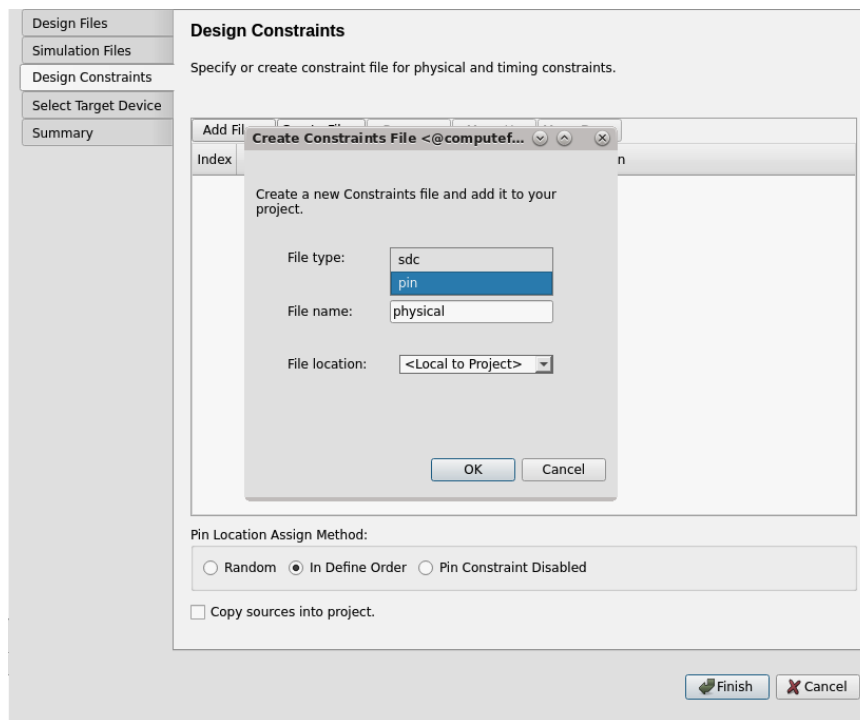

Figure 17: Physical Constraint File
- **Physical Constraints (\*.pin):** This file defines how design signals are mapped to specific physical pins on the FPGA device. To create (\*.pin) file, select pin as a File type and specify File name of the physical constraint file as shown in Figure 17.